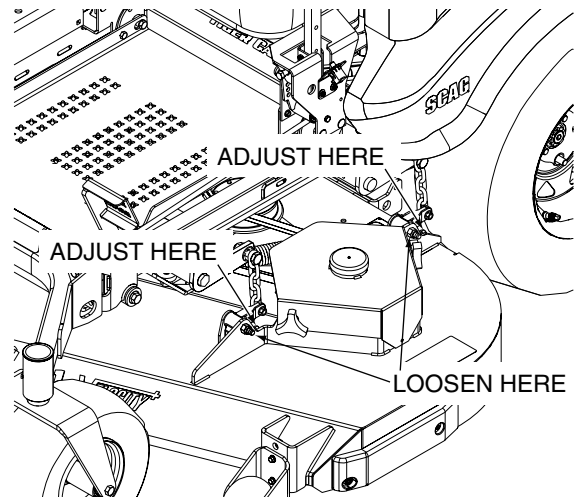

Figure 6-5. Cutter Deck Level Adjustment
1. If the cutter deck is lower on one side, loosen the elastic stop nuts securing the deck level links on the front and rear of the lower side. See Figure 6-5.
- Turn the adjustment bolts on the front and rear deck level links clockwise until the cutter deck is level between both sides. See Figure 6-5.
- Tighten the two (2) elastic stop nuts to secure the cutter deck in the proper position.